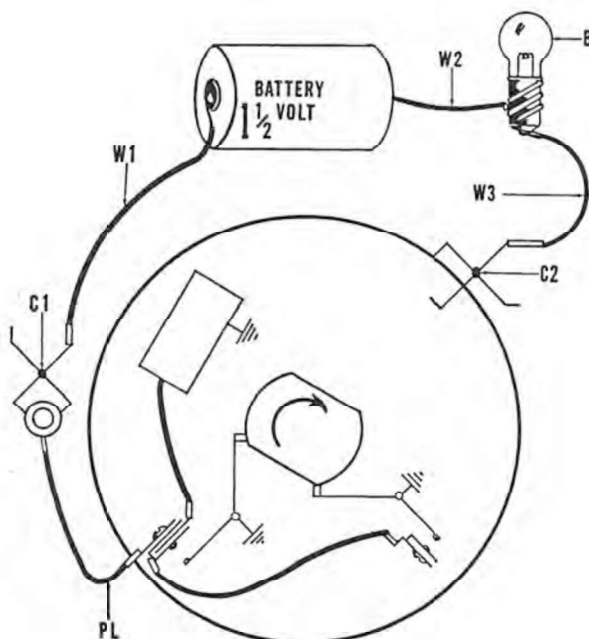
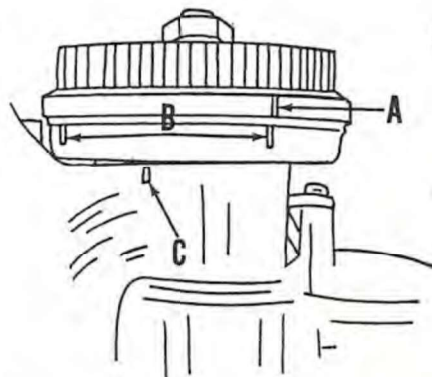

Fig. E89—Diagram showing method for constructing timing light using flashlight battery, bulb, wires and clips.
Fig. E91—Assembled magneto showing the three sets of timing marks. Refer to text.
mark (A—Fig. E91) aligns with either of the timing marks (B) on breaker plate. Point opening for the other two cylinders is controlled by the shape of breaker cam, and will be correct after adjusting each set of points.
To adjust the points, remove flywheel cover and magneto drive belt. Disconnect the primary lead and connect the timing light as shown in Fig. E89. With flywheel timing mark (A—Fig. E91) aligned with the first breaker plate timing mark, loosen the breaker point clamp screw slightly and turn the adjusting screw until the points close and lamp lights. Turn adjusting screw in opposite direction until the lamp just goes out; then tighten clamping screw. Turn flywheel until flywheel timing mark aligns with the other breaker point timing mark (B), and repeat the adjustment with the second set of points. Recheck by turning the magneto pulley one complete turn in a clockwise direction to see that lamp goes out at the proper instant. Readjust, if required, by repeating the above procedure.
Fig. E90 — Pulley cover removed showing method of adjusting contact points. Point gap is approximately 0.020, but the two sets of points must be synchronized using a timing light such as that shown in Fig. E89.